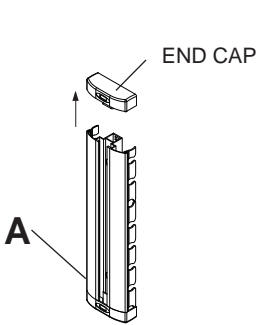
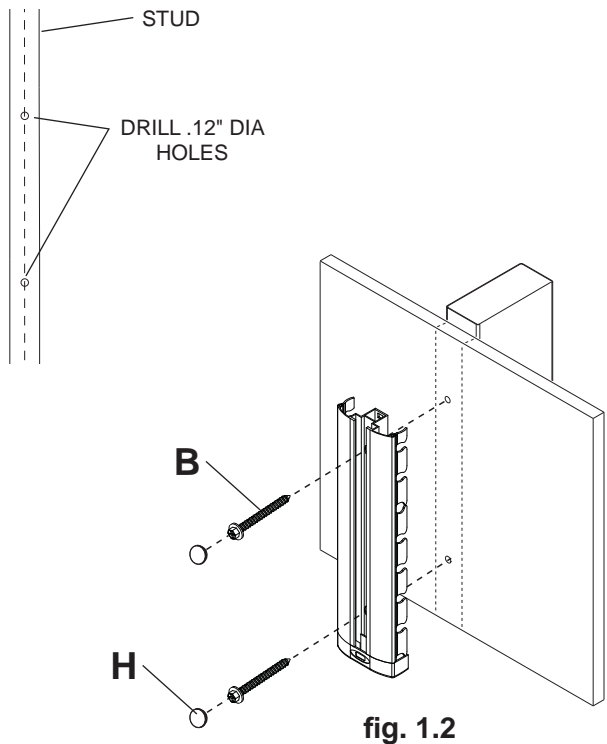

fig. 1.1
fig. 1.2
- 1 Remove end cap with bubble level from column (A). Column (A) can be mounted to a single stud. Use a stud finder to locate the edges of the stud. Use of an edge-to-edge stud finder is highly recommended. Based on their edges, draw a vertical line down the stud's center. Place column (A) on wall as a template. Level column and mark the center of the two mounting holes as shown in figure 1.1. Make sure that the center mounting holes are on the stud center lines. Drill two mounting holes .12" (3mm) dia. by 2" (51mm) deep. Secure column (A) with two M5 X 44mm wood screws (B) as shown in figure 1.2.
- 1** Remove end cap with bubble level from column (A) as shown in figure 1.1. Make sure that column (A) is level, use it as a template to mark two mounting holes. Drill two 5/16" (8 mm) dia. holes to a minimum depth of 2" (51 mm). Insert anchors (C) in holes flush with wall as shown. Place column (A) over anchors and secure with two M5 X 44mm wood screws (B).
Tighten fasteners then cover M5 X 44mm wood screws (B) with screw covers (H) as shown in figure 1.2.